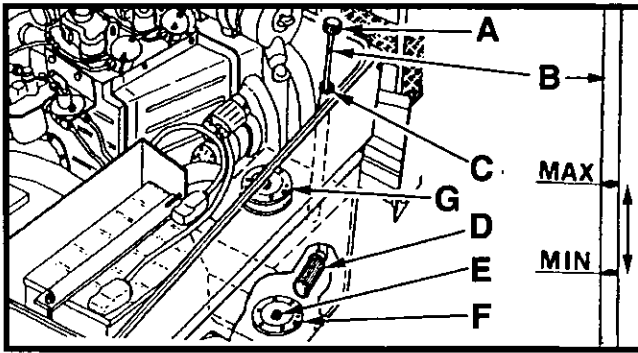

Figure 5-29 Hydraulic Tank
*The Vibration/Steering System suction strainer ('D', Figure 5-29) is screwed onto the suction pipe on:*
1. Place a container capable of holding at least 22 gallons (84 liters) under the drain plug (E, Figure 5-29).
2. Remove the drain plug ('E', Figure 5-29), and drain the hydraulic tank. Dispose of oil in accordance with local regulations.
3. Remove the cover plate ('F', Figure 5-29) located in the base of the hydraulic tank.
4. The Vibration/Steering System return strainer ('G', Figure 5-29), is located on the upper surface of the tank. Remove the filter cover to clean the inside strainer gauze..